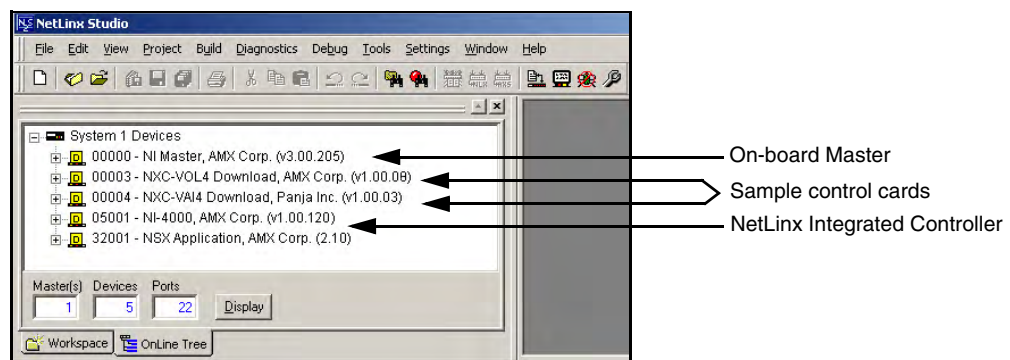

FIG. 32 Sample NetLinx Workspace window
1. After the *Communication Verification* dialog window verifies an active communication between the PC and the Master, verify the NetLinx Integrated Controller appears within the **OnLine Tree** tab of the Workspace window (FIG. 32).